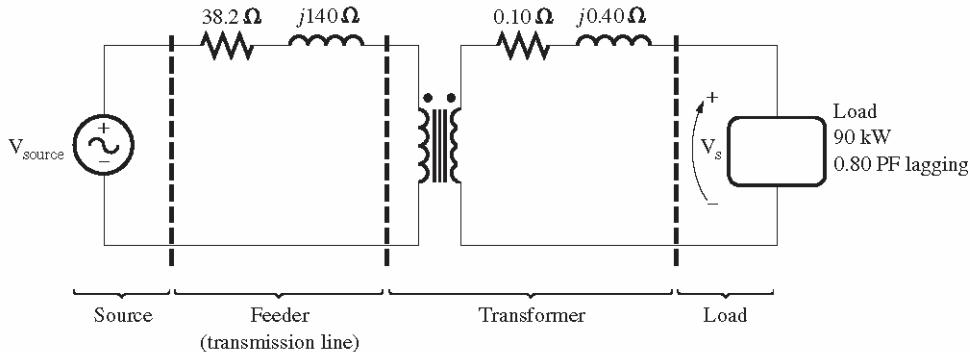

FIGURE P2-1
- 2-2.** A single-phase power system is shown in Figure P2-1. The power source feeds a 100-kVA 14/2.4-kV transformer through a feeder impedance of $38.2 + j140 \Omega$. The transformer's equivalent series impedance referred to its low-voltage side is $0.10 + j0.4 \Omega$. The load on the transformer is 90 kW at 0.8 PF lagging and 2300 V.